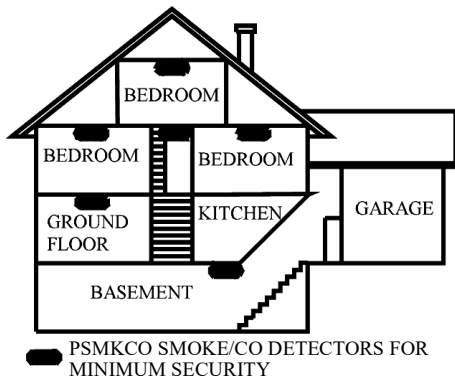

Fig. 3: Location for placing smoke detectors for a multi-floor residence.
- Install a smoke detector on every floor of a multi-floor home or apartment, as shown in Figure 3